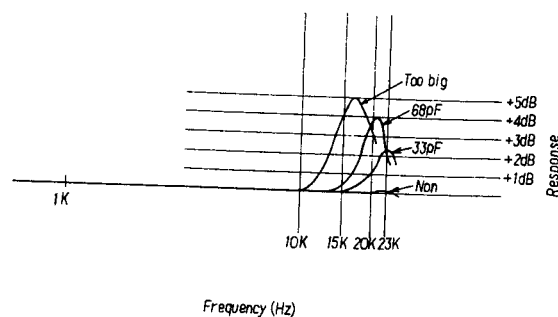

Fig. 7.20
- (5) Load a 15KHz P.B.F.R. tape (DA09002A) and play it back.
- (6) If the output of 15KHz shows the value within  $\pm 2$ dB, it shall be considered satisfactory.
- (7) Load a 20KHz P.B.F.R. tape (DA09001A) and play it back.
- (8) If 15KHz at (5) shows the value within  $\pm 2$ dB and 20KHz being less than -3dB, check shall be made on C101, 201 with 0 – 220PF. Refer to Fig. 7.20. "Compensation of Playback High Frequency Response".
- (9) Adjustment shall be made so that 10KHz, 15KHz and 20KHz will become flat when compared with 400Hz.
- (10) If the results are shown to belong to high, set R101, 201 to open -220K ohms.
- (11) Adjust the azimuth alignment to the maximum output with a 15KHz azimuth alignment tape (DA09004A).